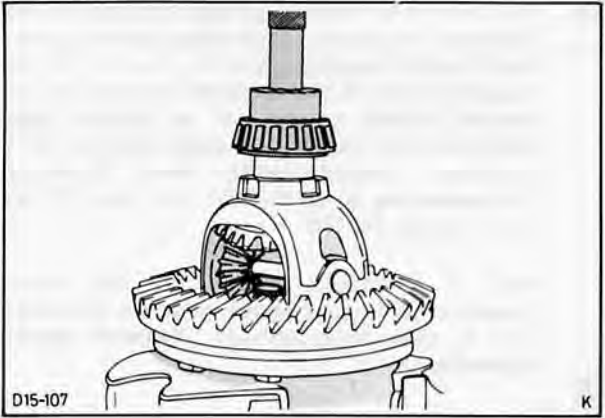

Fig. 80. Fit taper roller bearing with special tool no. 15-031
31. Press on both differential housing taper roller bearings with Special Tool, No. 15-031 Fig. 80.